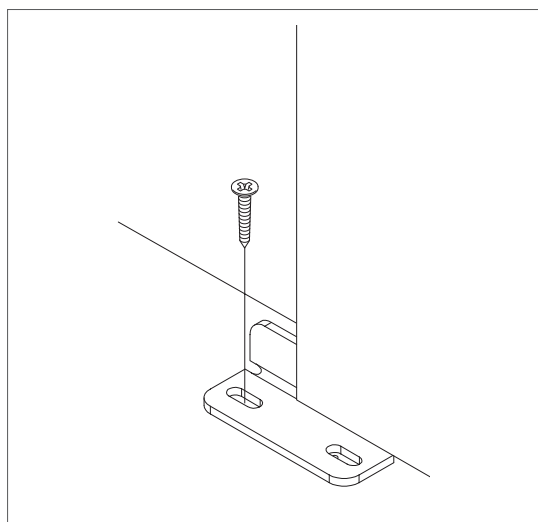

Figure 7
12. Position the Door Guide part way into the groove in the bottom of the door. (Figure 7).